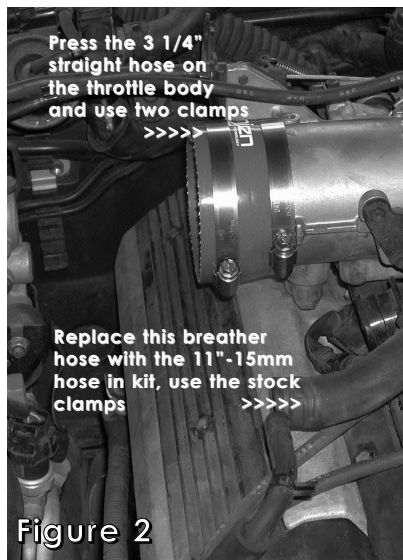

Figure 2
2. Place the 3 1/4" straight hose over the throttle body and use two clamps. Tighten the clamp on the throttle body at this point. See fig. 2